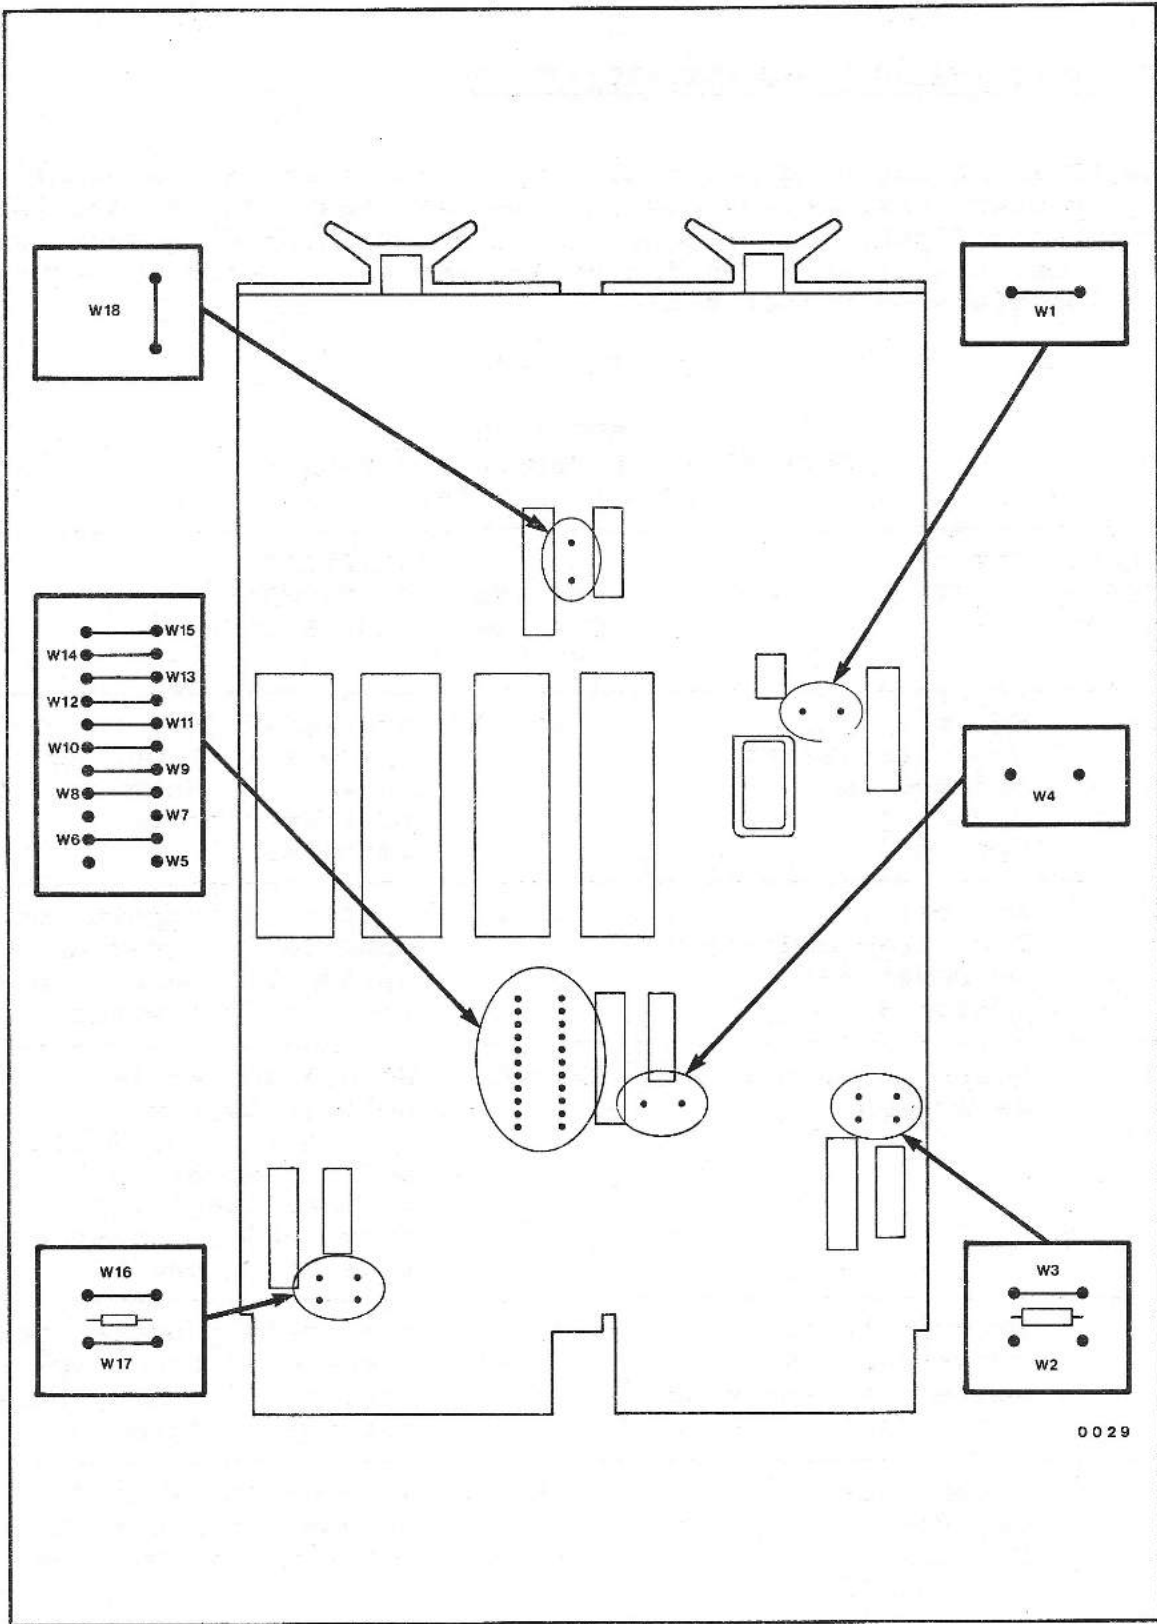

Fig. 4-1 Location of jumper pins on KDF11-AA (LSI-11/23)
1. KDF11-AA (LSI-11/23) CPU (Figure 4-1).
The KDF11-AA has eighteen pairs of jumper pins that can be configured to implement various user-selectable features. These jumpers, the various configuration options, and the SMS-shipped jumper configuration are listed in Table 4-5. Refer to Figure 4-1 for locations of jumper pins.
KDF11-AA STRAPPING JUMPERS W1 THROUGH W18 (See Figure 4-1)